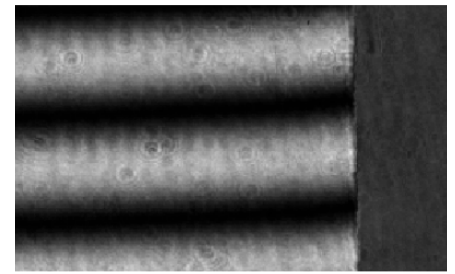

Figure 3a: Focused Fringes
6. Focus is at the best possible position, see figures 3a and 3b.